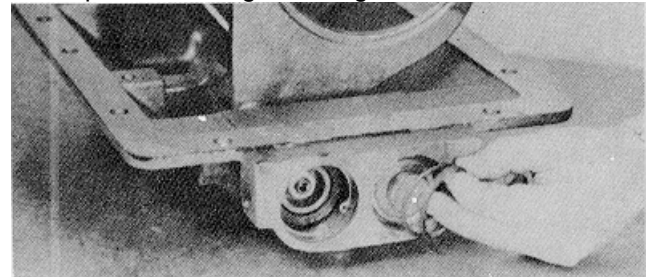

Figure 9B-60. Installing O-Ring and Washer
11. Place the snap ring at the front of each cylinder cap, Figure 9B-61.